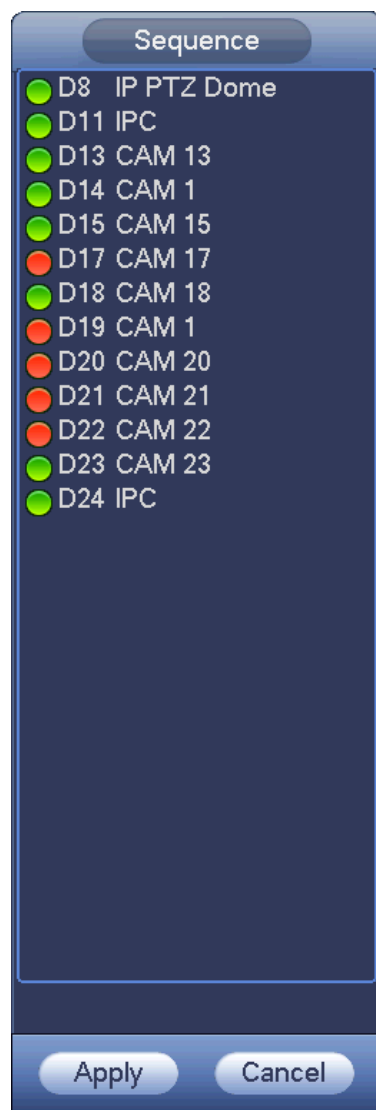

Figure 4-66
Step 1 On the preview interface, right click mouse and then click Edit view. Enter edit view interface. See Figure 4-66.
- In case the channel amount has exceeded the device max split amount, the edit view interface can display the max screen number amount and current screen number. In Figure 4-66, click  or , switch the video from other channel.